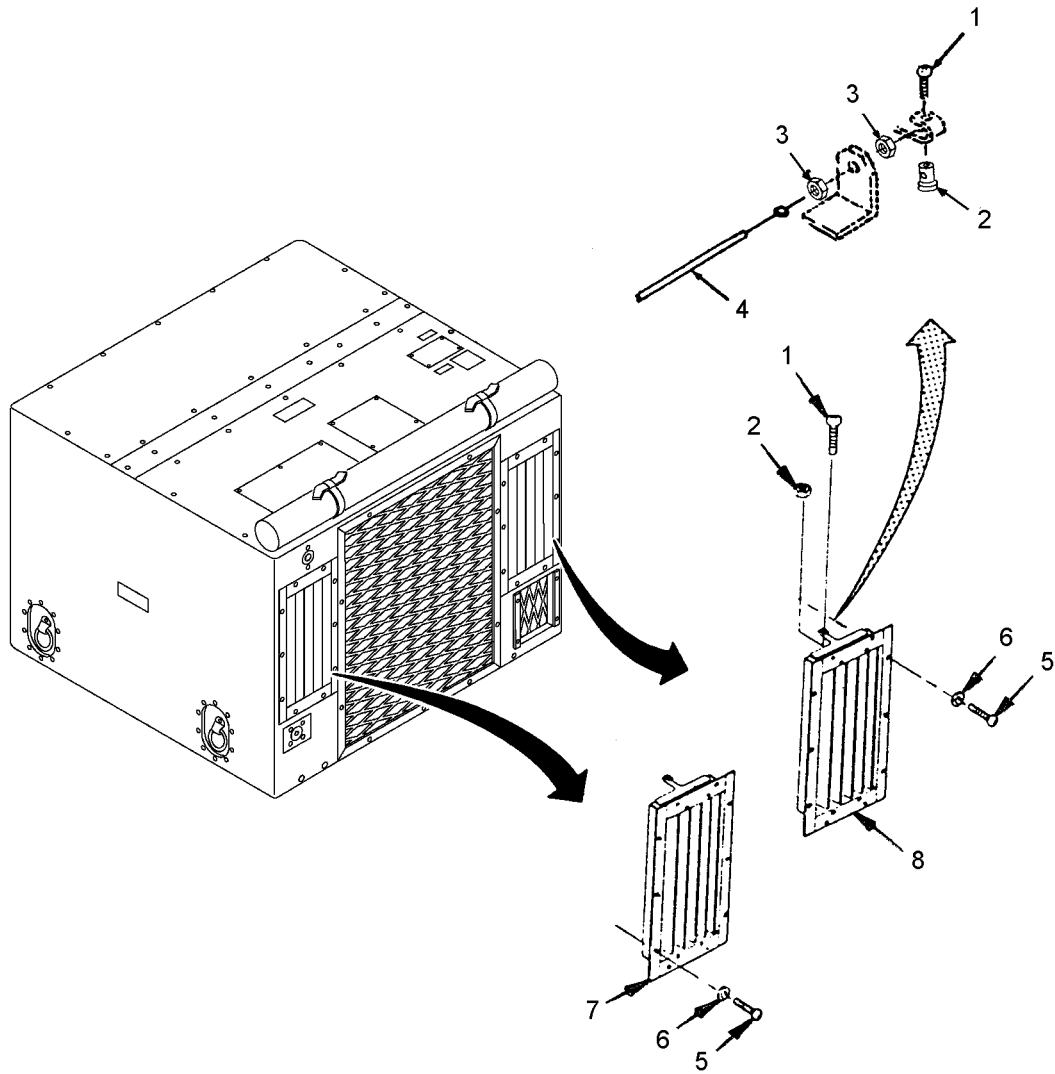
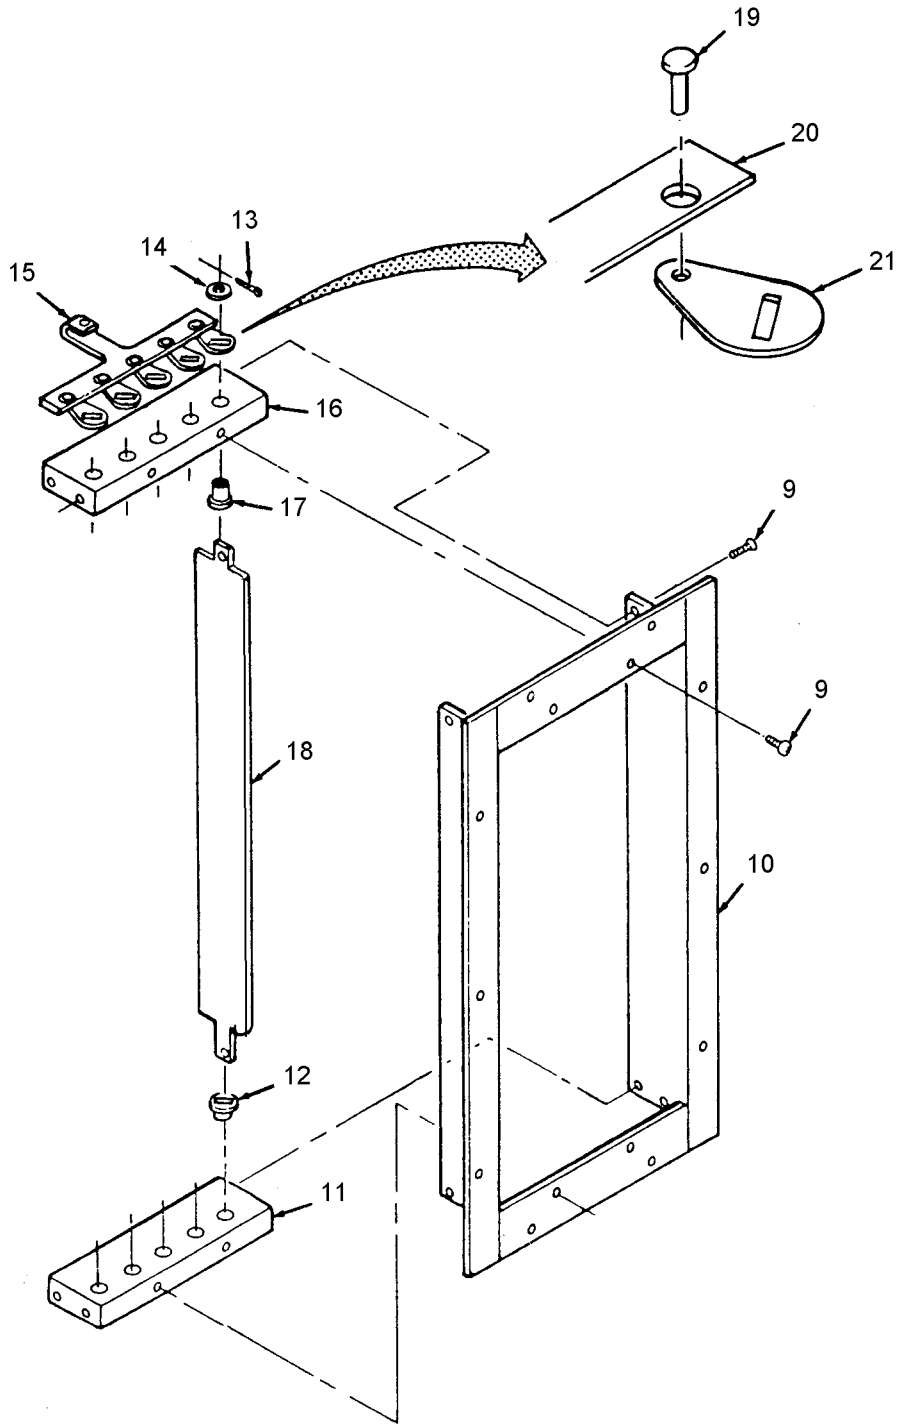

Figure 1
Figure 2
**REMOVAL (Refer to Figure 1)**
1. Remove two screws (1), two posts (2) and four nuts (3) to disconnect cables (4) from louvers (7) and (8).
2. Remove ten screws (5) and ten lockwashers (6) from each louver (7) and (8).
**REPAIR****Disassembly (Refer to Figure 2)**
1. Remove twelve screws (9) and louver frame (10).
2. Remove lower bearing plate (11) and five bearings (12).
3. Disassemble five pins (13), five washers (14), connecting link (15), upper bearing plate (16), five bearings (17), and five louver blades (18).
4. Remove five rivets (19) and then disassemble link (20), and five louver blade arms (21).
**ASSEMBLY (Refer to Figure 2)**
2. Assemble five louver blade arms (21), link (20), and then install five rivets (19).
3. Install five louver blades (18), five bearings (17), connecting link (15), five washers (14) and five pins (13) onto upper bearing plate (16).
4. Install five bearings (12) and lower bearing plate (11).
5. Install louver frame (10) and twelve screws (9).
**INSTALLATION (Refer to Figure 1)**
1. Install left condenser exhaust louver (8), ten lock washers (6), and ten screws (5).
2. Install right condenser exhaust louver (7), ten lock washers (6), and ten screws (5).
3. Place loops from cable (4) into louvers (7 and 8) and install two screws (1), two posts (2) and nuts (3).